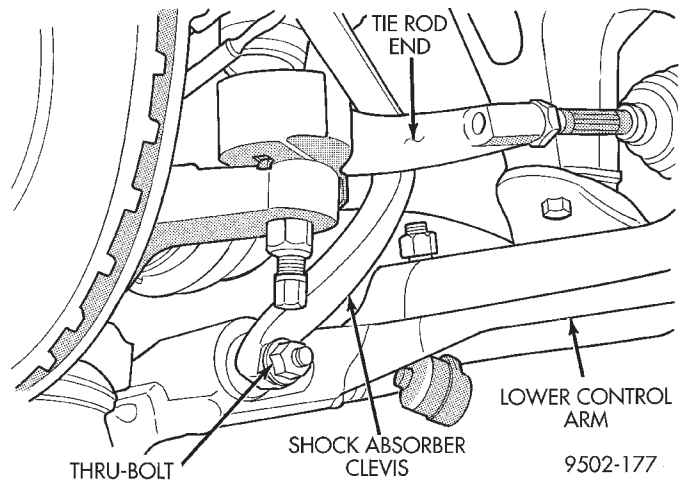
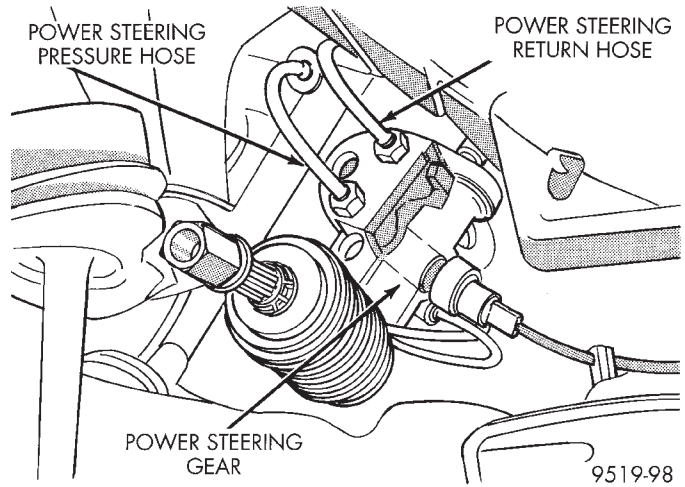

Fig. 11 Shock Clevis To Lower Control Arm Bolts
Fig. 16 Power Steering Pressure And Return Hose At Steering Gear
(11) If vehicle is equipped with antilock brakes, the hydraulic control unit can not hang from the brake tubes when lowering front suspension crossmember. Using wire, tie the antilock brakes hydraulic control unit to the body and engine so the wire will support it when the crossmember is lowered.
(12) If vehicle is equipped with antilock brakes, remove the 3 bolts attaching the antilock brakes hydraulic control unit to the front suspension crossmember.
(13) Remove the bolts attaching the shock absorber clevis to the left and right lower control arms (Fig. 11).
(20) Remove power steering fluid, pressure and return hoses from the power steering gear assembly (Fig. 16).
(21) Remove wiring harness connector, (Fig. 16) from the power steering fluid pressure switch.
(2) Install the power steering fluid pressure and return lines on the ports of the power steering gear (Fig. 16). Tighten power steering fluid pressure and return lines to steering gear tube nuts (Fig. 16) to a torque of 31 N·m (275 in. lbs.).
(8) Install vehicle wiring harness connector (Fig. 16) onto power steering fluid pressure switch on steering gear assembly. **Be sure locking tab on wiring harness connector is securely latched to pressure switch.**
(9) Install the antilock brakes hydraulic control unit mounting bracket on the front suspension crossmember. Install the 3 mounting bracket to crossmember attaching bolts and tighten to a torque of 28 N·m (250 in. lbs.).
(10) Loosely install the 2 shock absorber clevis to lower control arm attaching nuts and bolts (Fig. 11).
(15) Tighten the shock absorber clevis to lower control arm bushing thru-bolt (Fig. 11) to a torque of 92 N·m (68 ft. lbs.).
(16) Install the wheel and tire assemblies back on vehicle. Tighten the wheel nuts in proper sequence to a torque of 129 N·m (95 ft. lbs.) torque.